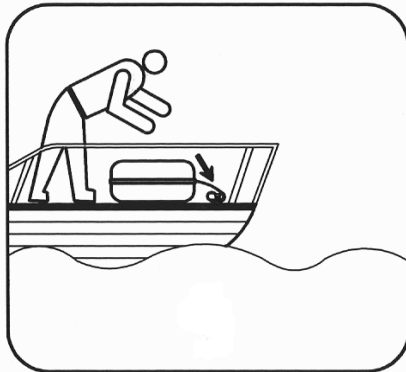

FIGURE 2
5. Pull the painterline out of valise or container about six (6) feet (2m).
6. Secure the free end of painterline to a strong, sturdy attachment point on the vessel such as a handrail or cleat (See Figure 2).